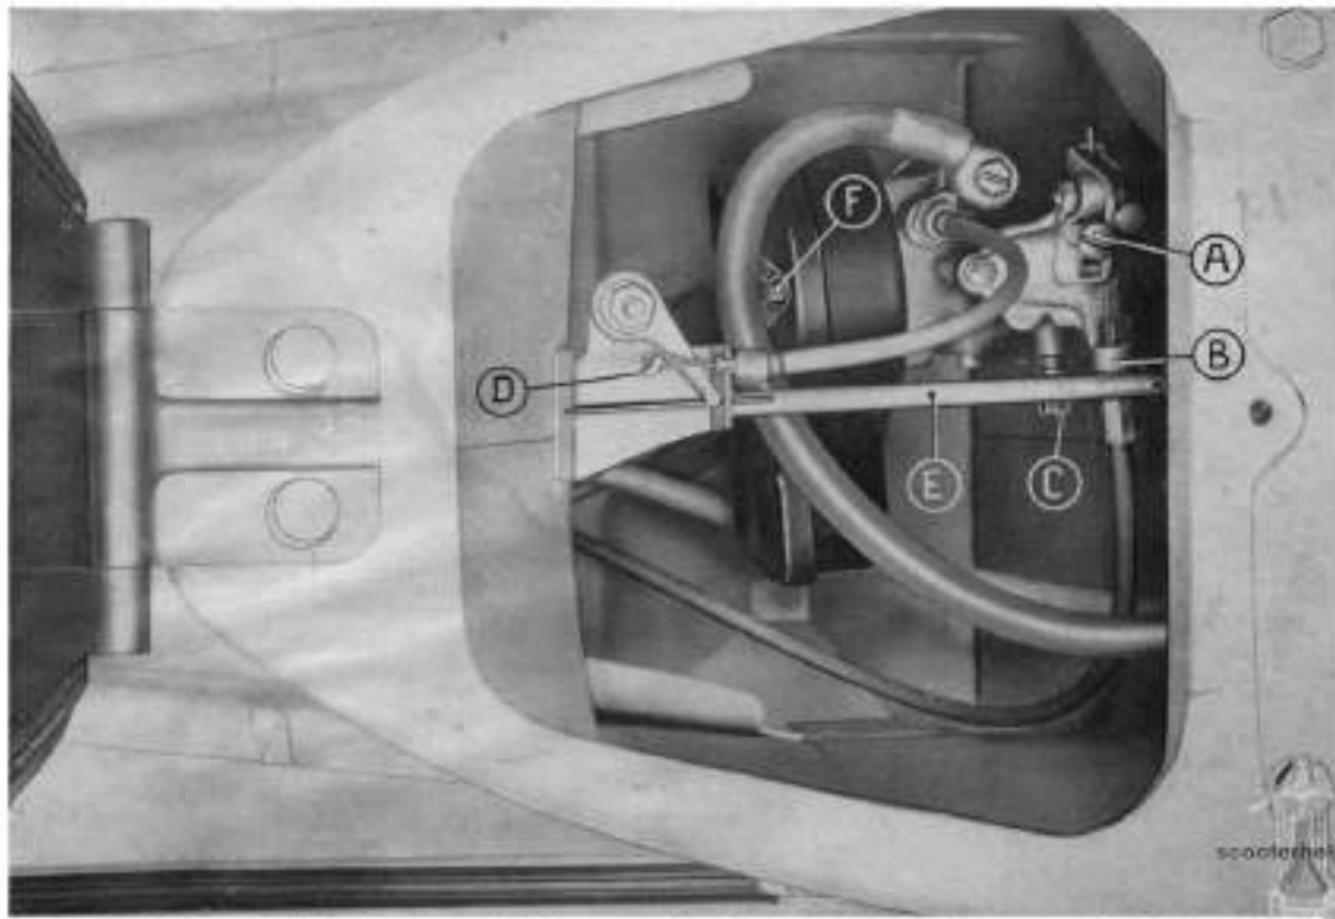

Fig. 12 - To approach the carburetor and air cleaner assy. (For details indicated on the figure, see pag. 16 - 18).
- On the carburettor body a set screw (« B » fig. 12) is provided for adjusting the throttle cable play; this screw is to be reset **only if necessary** or on dismantling and reassembly operations.
- On the air cleaner case, there is a spring loaded screw for adjusting the volume of mixture from idling jet (fig. 9, n. 3 and fig. 12, « C »).
| DISMANTLING AIR FILTER | <ul style="list-style-type: none"> — For dismantling the air filter, pivot the seat forwards (fig. 5); remove the tool box and the choke control cable (the cable end ring can be seen on Fig. 12, « D »); then dismount the fuel tap rod (see Fig. 12 « E »); next unscrew the two tee head bolts (Fig. 12 « F ») securing the air filter case and extract it. | |
| Air cleaner choked or dirty. | See page 18, fig. 12. | |